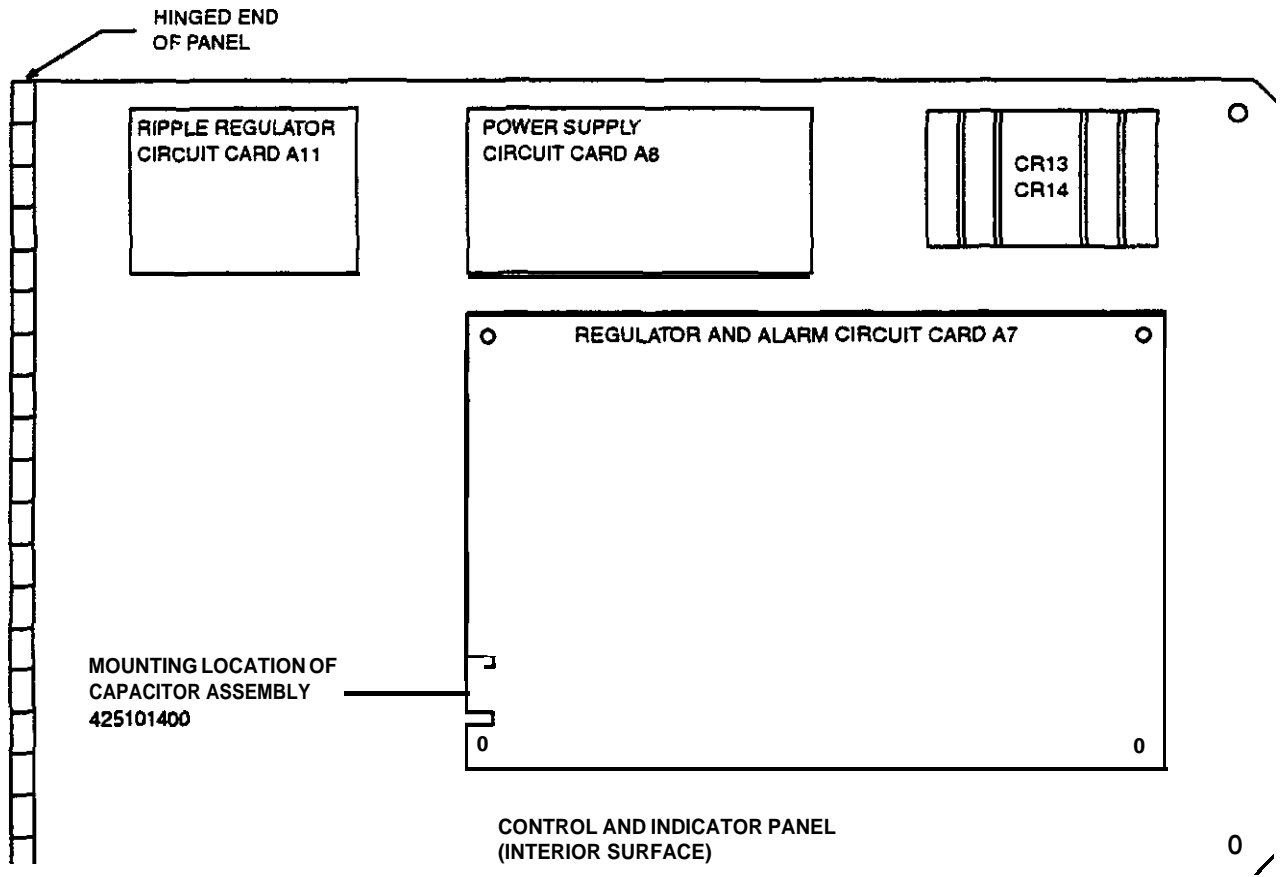

Figure 4-1. Capacitor Assembly Connector Location
4.12 If rectifier operation off battery is required, a capacitor assembly, Part No. 425101400, must be installed on circuit card A7 to stabilize rectifier output voltage. See Figure 4-1.
- e) Install the M option capacitor assembly, PartNo. 425101400, on the appropriate edge connector of regulator and alarm circuit card A7. Refer to Figure 4-1 for mounting location.